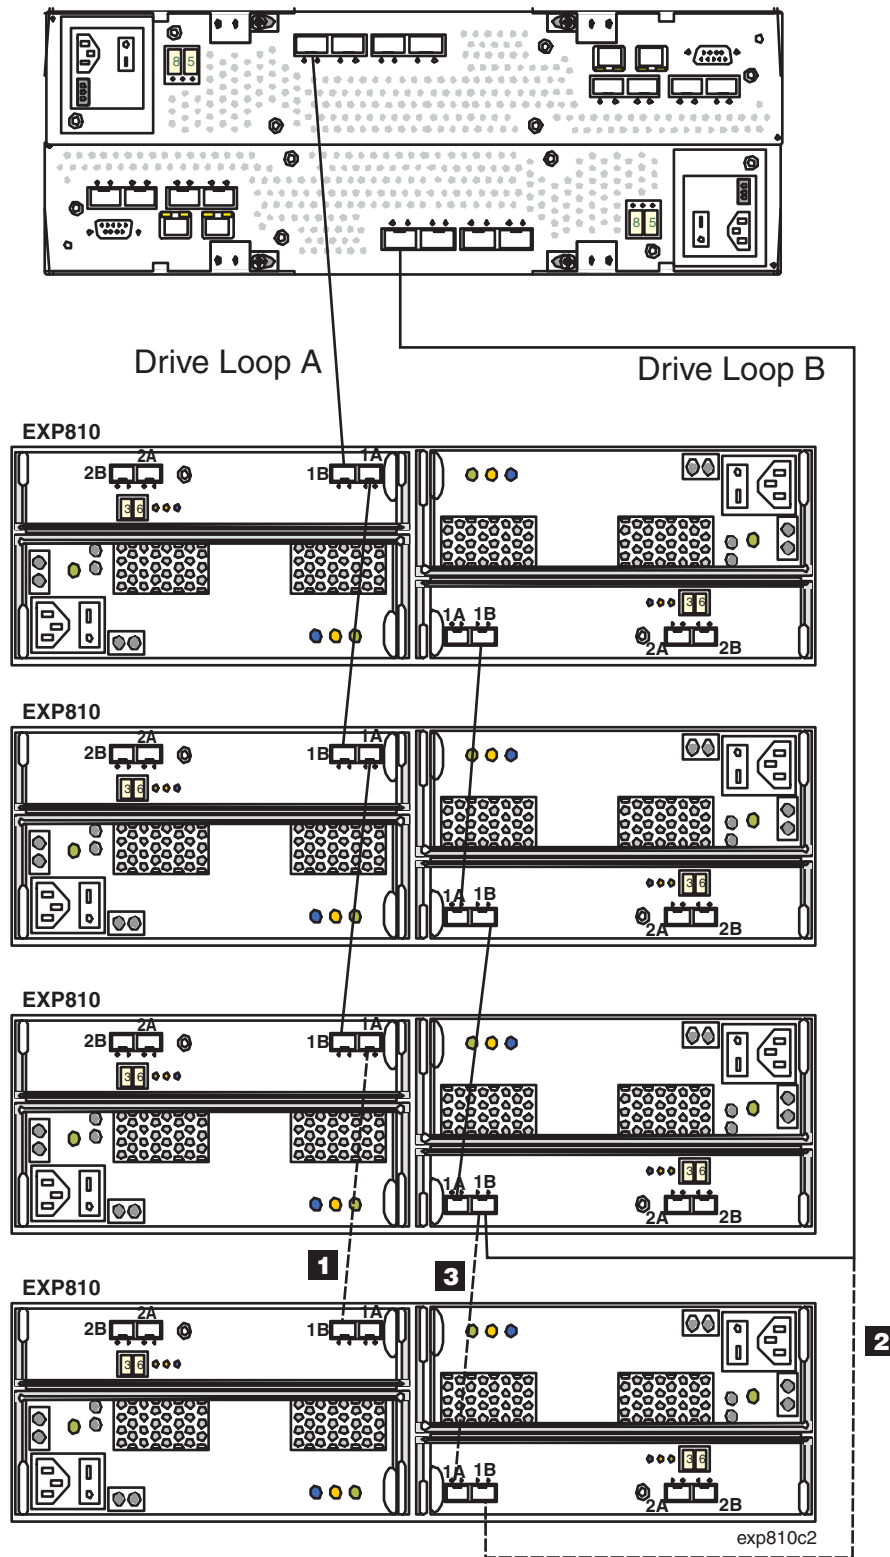

Figure 54. Cabling the EXP810 to an existing and configured drive loop
Figure 54 on page 97 shows an example of a DS4000 storage subsystem configured with redundant drive loop pairs.
The dashed lines in Figure 54 show how to add a new EXP810 to an existing DS4800 configuration with EXP810s. To add the new EXP810 shown in Figure 54, perform the following steps:
4. Make the fibre-channel connection marked **1** in Figure 54 on page 97 (drive loop A) by connecting port 1A of the existing EXP810 to port 1B of the new EXP810. Then verify that it is recognized by the Storage Manager software GUI.
5. Move the existing fibre-channel connection marked **2** in Figure 54 on page 97 from the existing EXP810 enclosure ESM port 1B to the new EXP810 enclosure ESM port 1B.
6. Make the fibre-channel connection marked **3** in Figure 54 on page 97 (drive loop B) by connecting port 1A of the new EXP810 to port 1B of the existing EXP810.